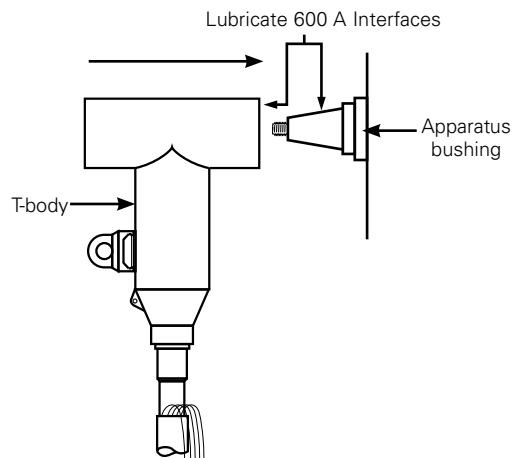

Figure 26. Line illustration of installing T-body onto apparatus bushing.
- Push T-body onto apparatus bushing ensuring that the stud on the bushing passes through the hole of the compression connector. See Figure 26.